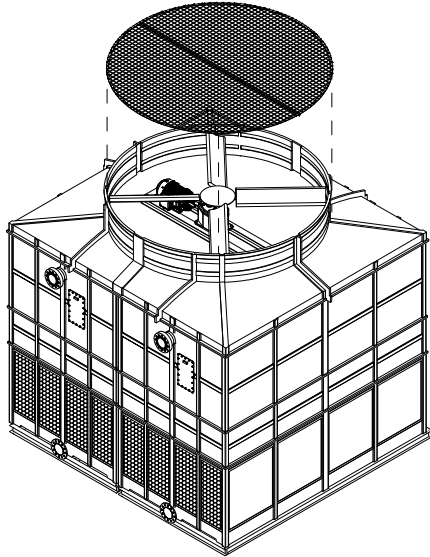

Figure A-122: Fan guard installation on the Fan Deck in a RTGMTC model
- W. Assemble the 2-piece Fan Guard bolting each section as indicated. (See figure A-122).
bar and install it on top of the fan deck Section #M1, making sure that the bolt holes on the Fan Guard Section are aligned with the ones on the Fan Deck Section #M1. Secure it with stainless steel nut and bolt sets supplied by REYMSA.(See figure A-122).